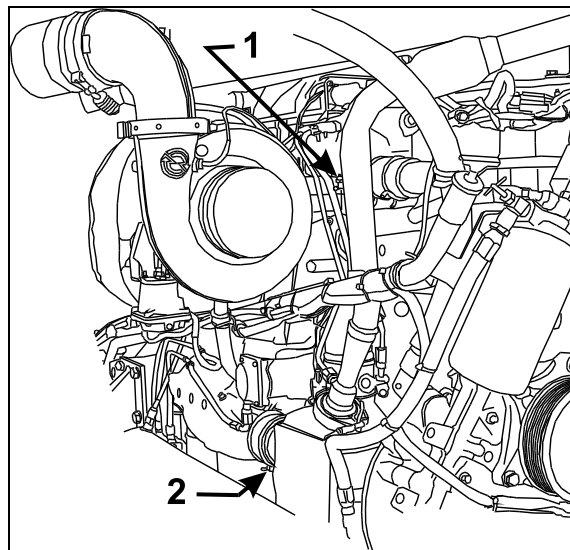

FIGURE 4: ENGINE COOLANT DRAIN COCKS 05088
- Open drain cock at bottom of thermostat housing to drain the coolant trapped above the thermostats (1, Fig. 4).
- Open engine drain cock (2, Fig. 4).